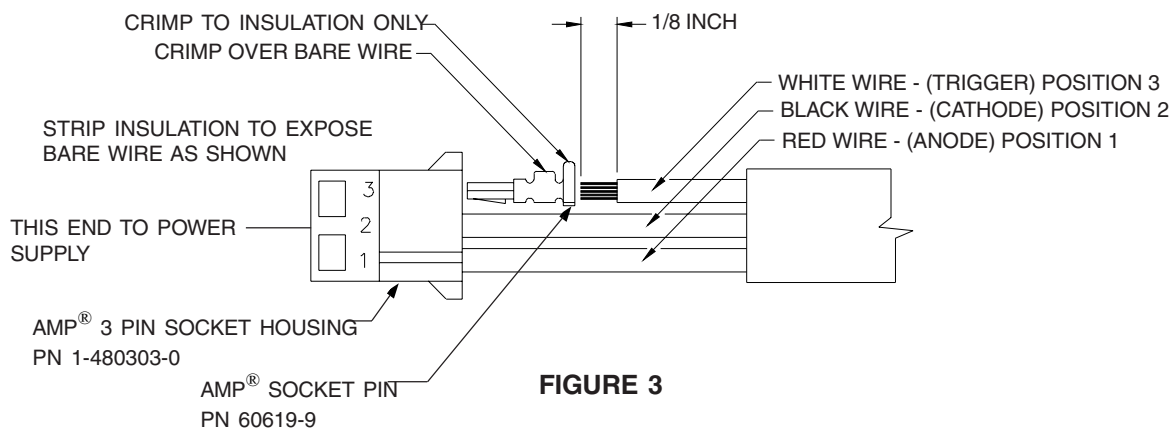
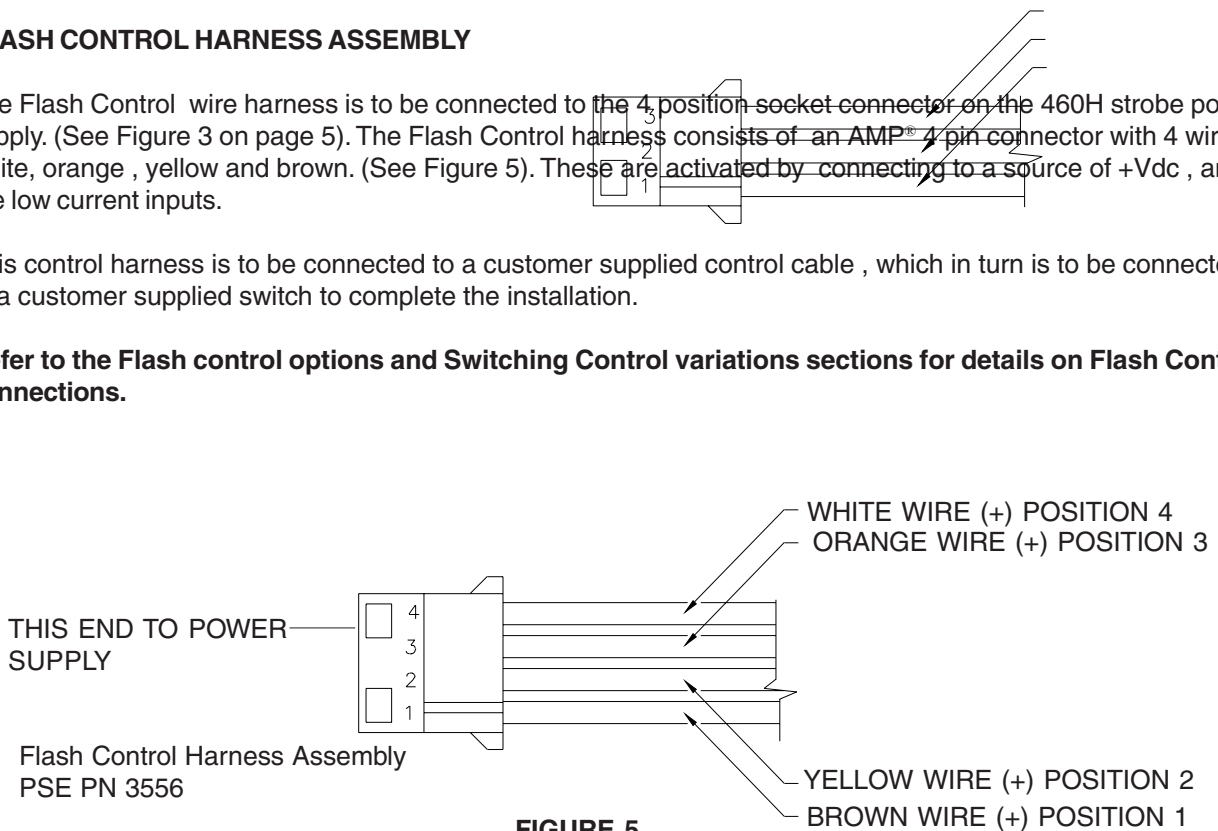

FIGURE 3
FIGURE 5
2. After the cables have been properly routed for each strobe head they will have to be terminated with the three pin AMP socket housings provided. The cables are factory terminated with the proper AMP pins for insertion into the housings, see Figure 3. If there is a need to re-terminate any wires, Figure 3 also includes stripping and crimping information.
It is very important to observe the pin locations and color on the three pin socket housings. Improper connections could damage the remote strobe heads, see Figure 3.
The Power-input wire harness is to be connected to the 3 position socket connector on the 460H strobe power supply. See Figure 3, page 5.
The Flash Control wire harness is to be connected to the 4 position socket connector on the 460H strobe power supply. (See Figure 3 on page 5). The Flash Control harness consists of an AMP® 4 pin connector with 4 wires : white, orange , yellow and brown. (See Figure 5). These are activated by connecting to a source of +Vdc , and are low current inputs.